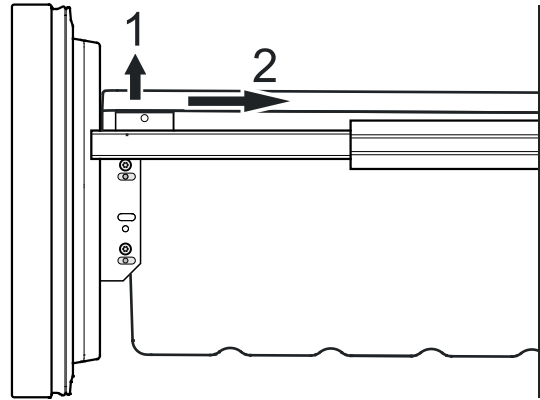
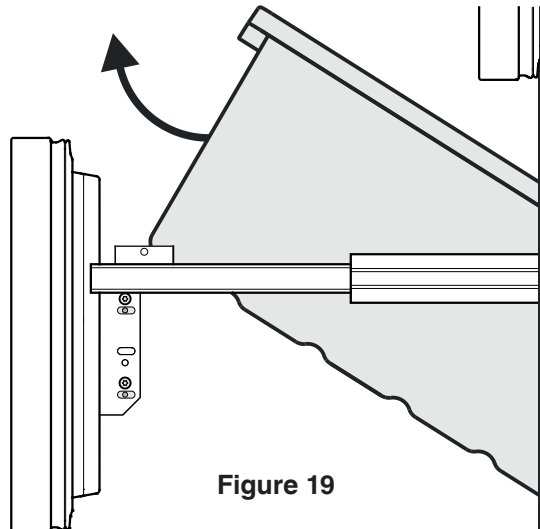

Figure 18
Figure 19
- Unlatch the container on the left and right corners by pulling upwards (1) - **Figure 18**.
- Slide the container backwards (2) - **Figure 18**.
- Tilt the container at an angle and remove - **Figure 19**.
- Remove the freezer drawer containers as shown in **Figure 18** and **Figure 19**.